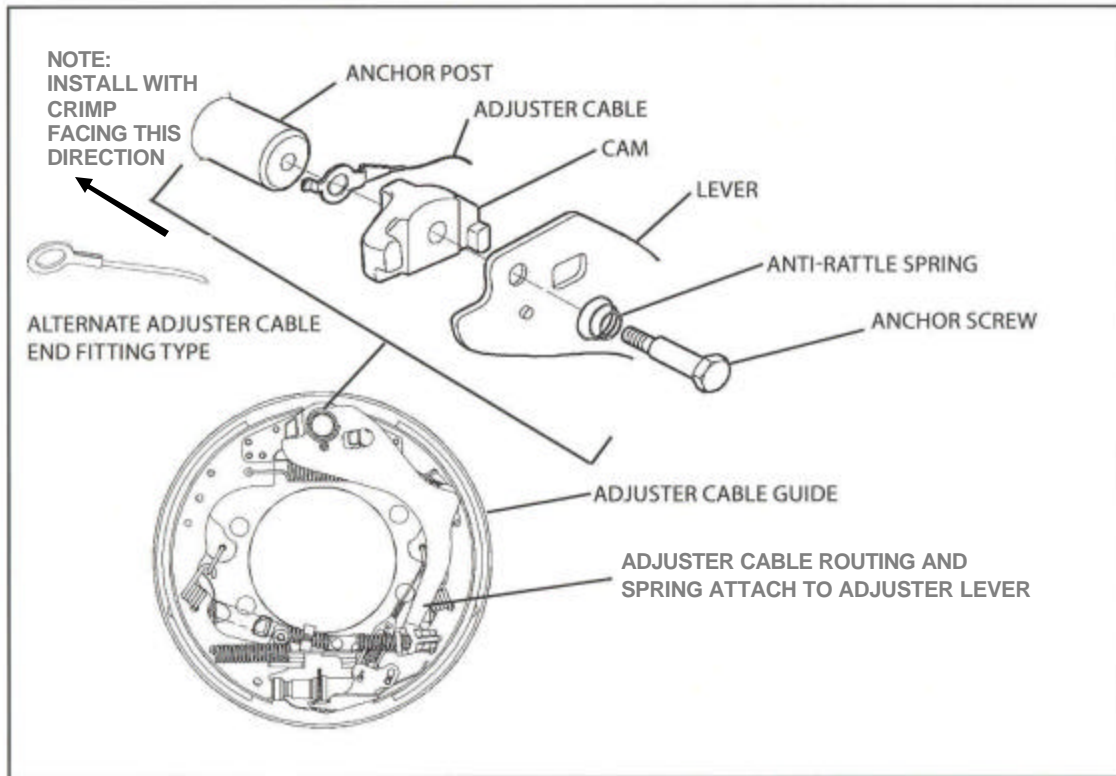

Figure 5
- 8) Re-install the adjuster cable, cam, apply lever, anti-rattle spring (small coil end toward screw head) and the new anchor screw. See Figure 5.